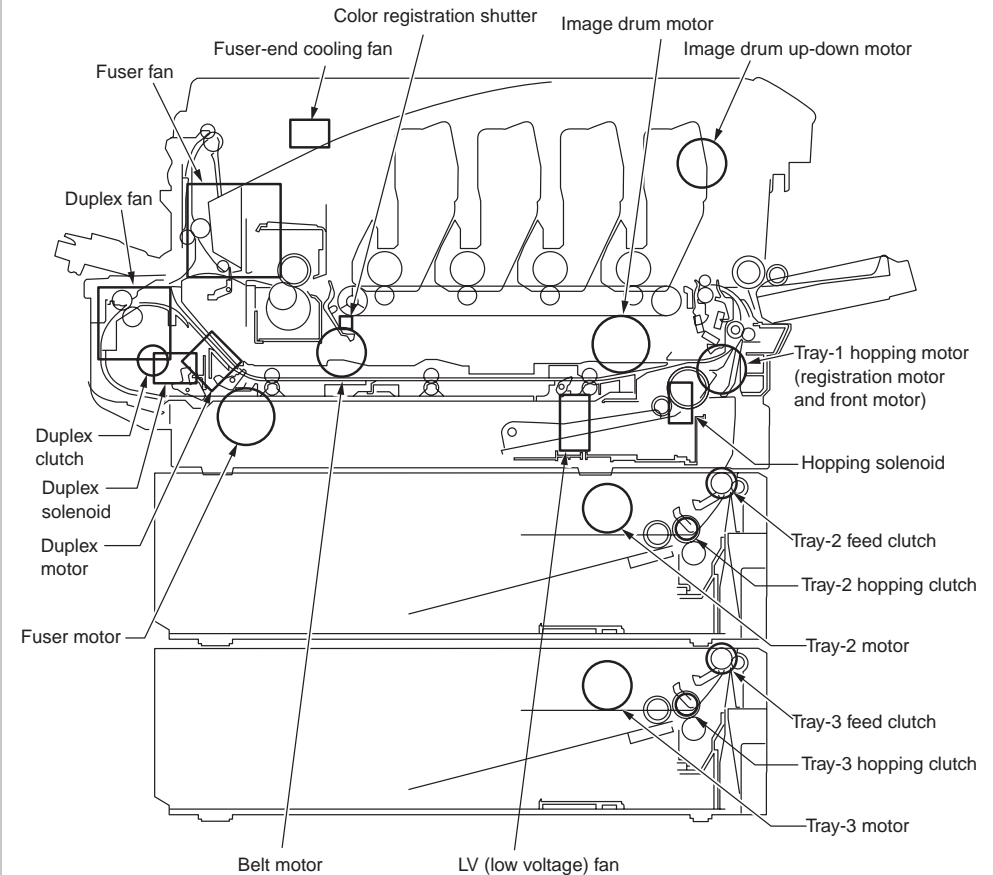

Figure 5-2
3. Press the ENTER button. The motor and clutch test starts, the unit's the name and current status starting to blink, and the unit being driven for ten seconds (refer to figure 5-2).